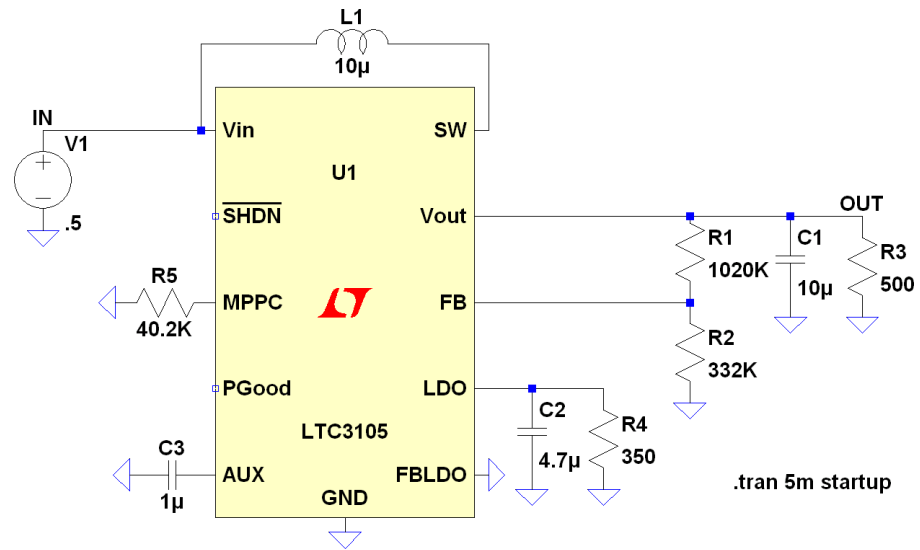

Figure 53: LTC3105 Test Jig.
- Open up the LTC3105 test jig in LTspice (Figure 53). (You can create a new schematic, add a new part, and place the LTC3105 (located in power products). Then you can right click on the part and open up the test jig.)